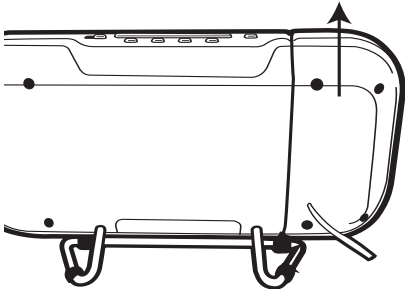
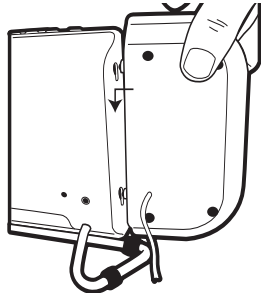

FIGURE 1
FIGURE 2
1. The right speaker cannot be removed from the unit. The left speaker can be removed from the unit, if desired. To remove the left speaker, simply push up on the speaker as shown in figure 1. To reinsert the speaker, line up the pins as shown in figure 2 and push down until a click is heard.